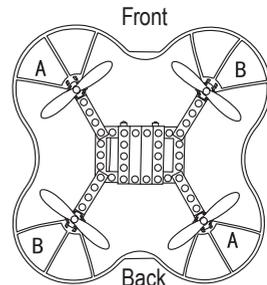

Fig. 11
- Your quadcopter has four rotors, two of which turn clockwise and the other two turn anti-clockwise. The blades must be positioned according to the markings "A" and "B" as shown on the blades. When installing the blades please follow the markings as shown in Fig. 11.